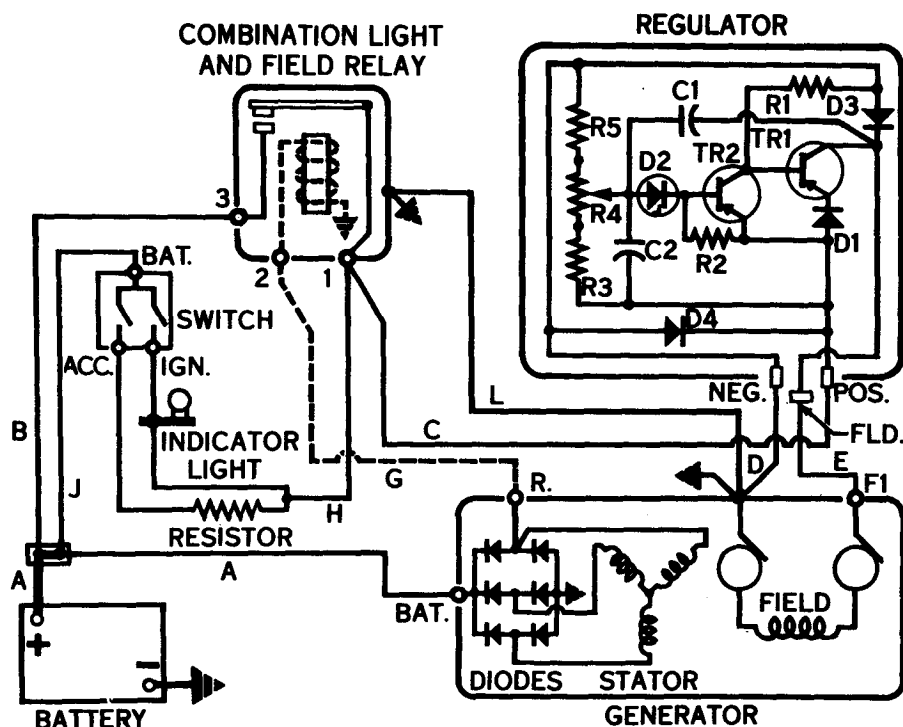
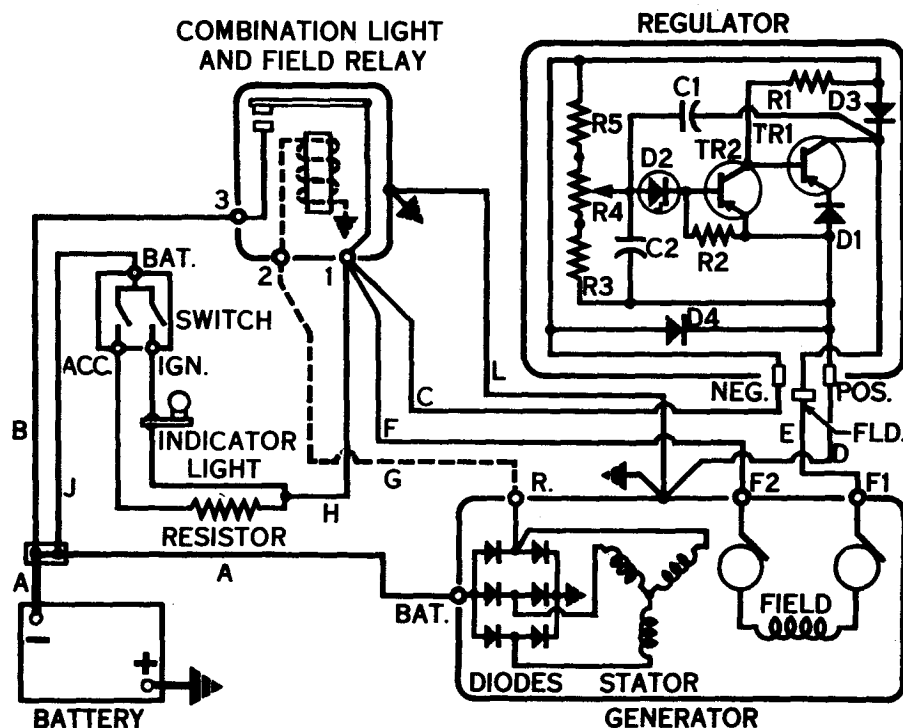
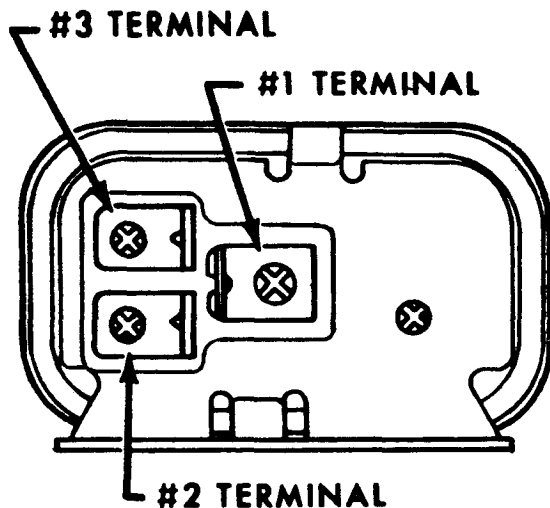

Figure 7—Negative ground circuit with combination light and field relay.
Figure 8—Positive ground circuit with combination light and field relay.
Figure 10—Underneath side of combination light and field relay (Used in Figures 7 and 8).
Figure 7—Circuit diagram of combination series-parallel and magnetic switch completing series connections between batteries for 24-volt cranking motor operation.
Figure 8—Circuit diagram of combination series-parallel and magnetic switch completing parallel connections between batteries for normal operation of vehicle electrical equipment at 12 volts.
1. Negative ground circuit (Fig. 7)
2. Positive ground circuit (Fig. 8)
The negative ground circuit shown in Figure 7, and the positive ground circuit shown in Figure 8, are identified by a resistor connected in parallel with the indicator light and by a single relay which serves as a combination light and field relay.
In Figure 7, with the switch on and the engine not running, current flows from the battery through the switch and indicator light
In the positive ground circuit shown in Figure 8, with the switch on and the engine not running, field current can be traced from the battery positive ground to generator ground, and then to the regulator "POS" terminal. The current continues through diode D-1 and transistor TR-1 to the regulator "FLD" terminal, and then through the field winding, indicator lamp and resistor, and switch back to the battery, thus completing the circuit. Except for this primary difference, this circuit operates in the same manner as that described for the negative ground circuit in Figure 7.
Figures 7 and 8 — These circuits use a single *combination* light and field relay.
3. If the voltmeter reads battery voltage, the field relay contacts (Figs. 3, 4, 5 and 6), or combination light and field relay contacts (Figs. 7 and 8), are stuck closed, and the relay must be replaced. If the voltmeter reads zero, proceed to Step 4 if it applies and then to Step 5, otherwise go direct to Step 5.
4. For the circuits in Figures 7 and 8 only, connect a jumper lead between the No. 1 and No. 3 terminals on the combination light and field relay. The terminals are identified in Figure 10. Slide prods into the connector body to make connections. *Leave this jumper lead connected for all*
8. If the voltmeter reads zero for circuits in Figures 7 and 8, there is excessive resistance or an open in leads A, B, C, and D.